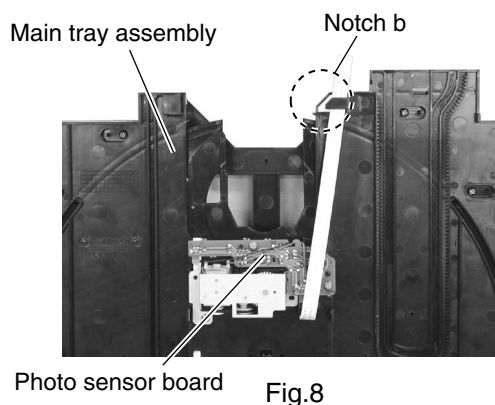

Fig.8
– Reattaching the main tray assembly – (See Fig.8 to 10)
1. Turn over the main tray assembly and pass the card wire extending from the photo sensor board through the notch **b**, in advance (Fig.8).